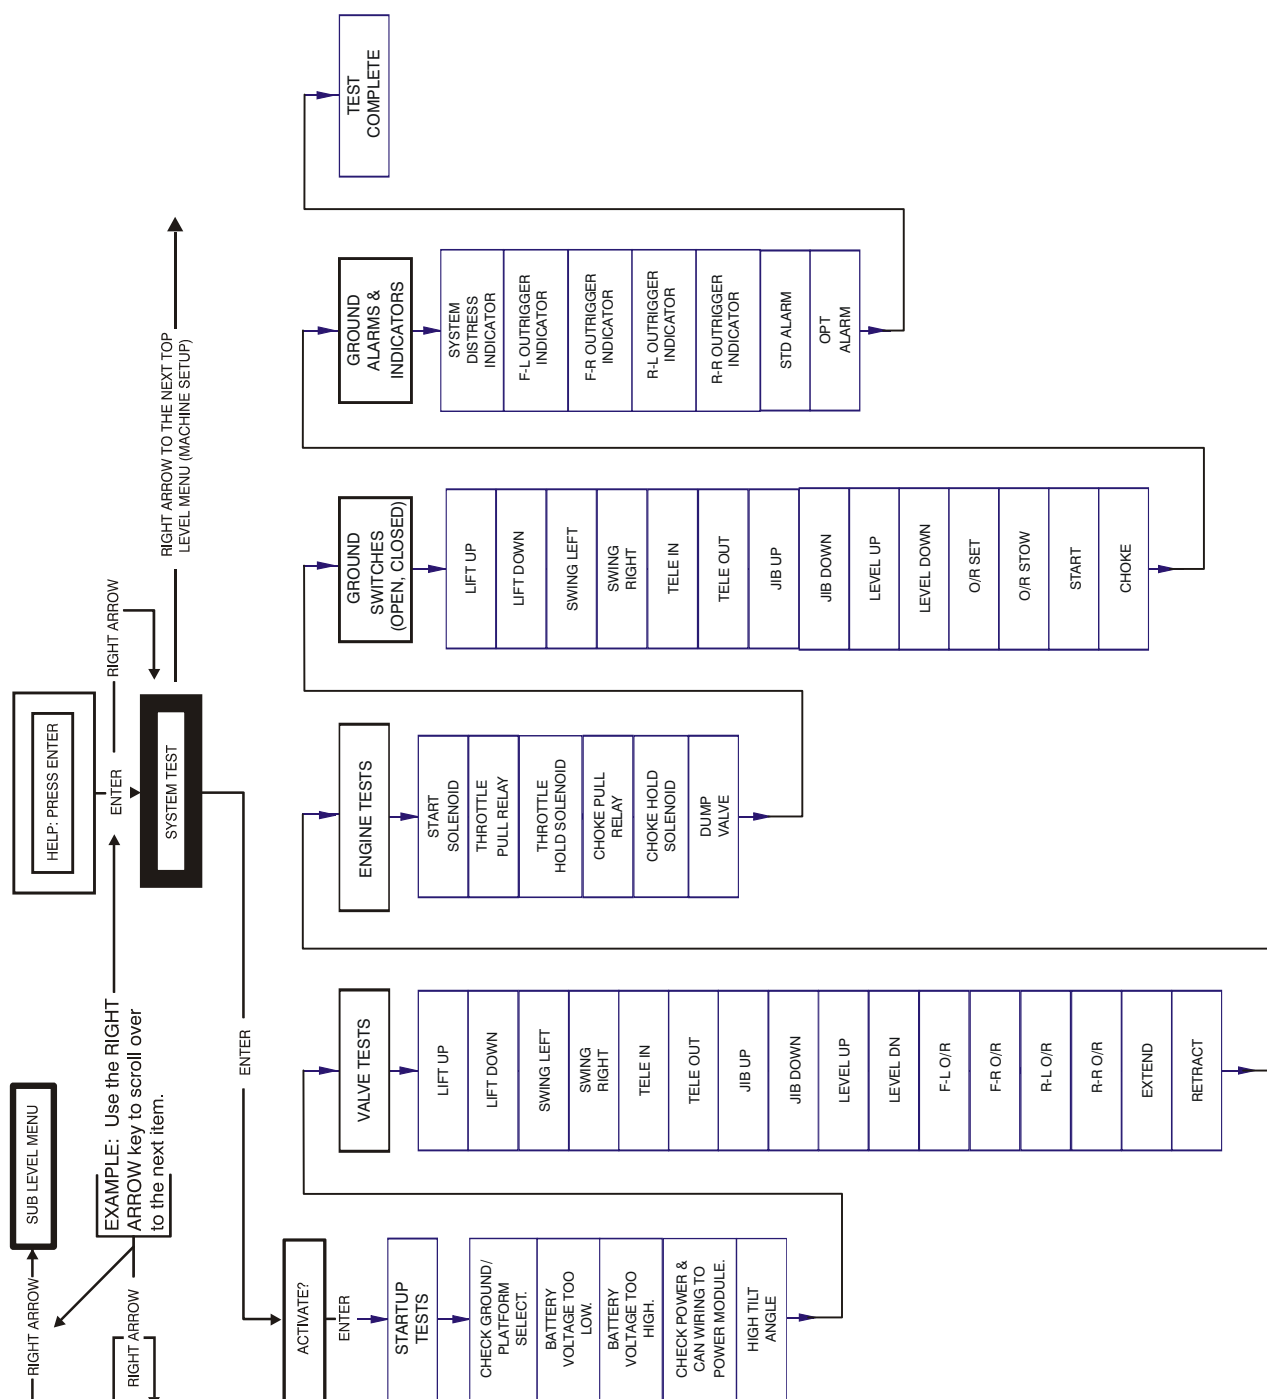

Figure 9-6. System Test Flow Chart - Ground Station Tests
6. Follow the flow path in Figure 9-6., System Test Flow Chart - Ground Station Tests and go through the component tests. Hit the ESC key during any part of the test to return to the main menu without completing all tests or wait until all tests are complete. During the TEST ALL INPUTS sequence, the analyzer allows control switches to be operated and shows if they are closed (CL) or open (OP).